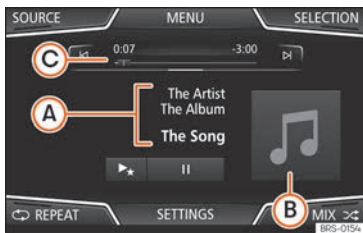

Fig. 189 MEDIA main menu.
- Press the infotainment button  to open the *Media* » Fig. 189 main menu.
The media source being played is indicated on the dropdown list when pressing the **SOURCE** function button » Fig. 189.